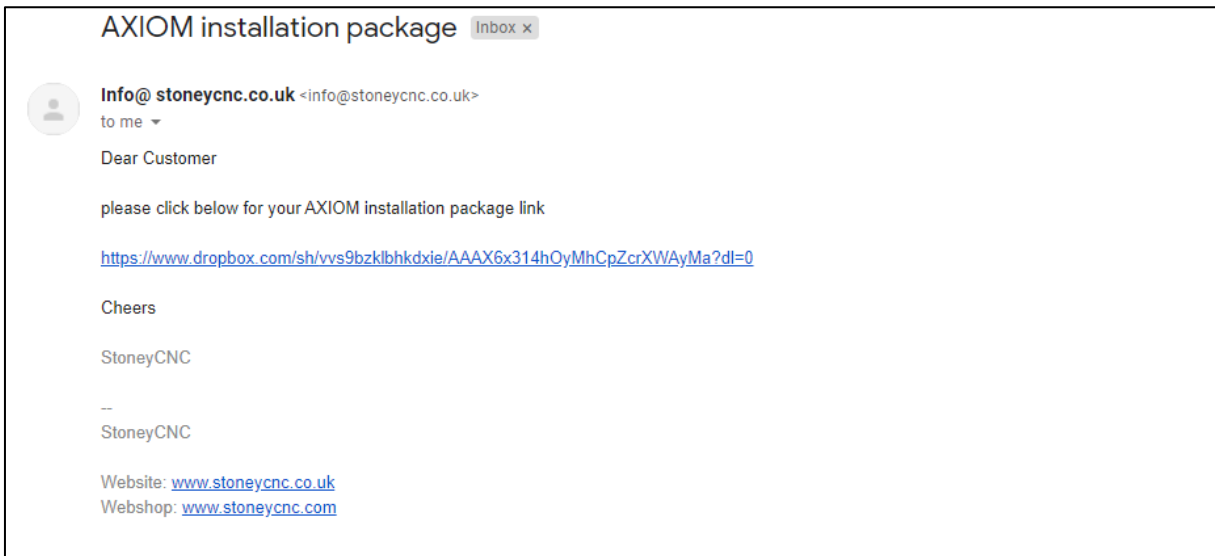

Figure 25: AXOIM installation link
- See Figure 25 for the link you will receive via email to install the software